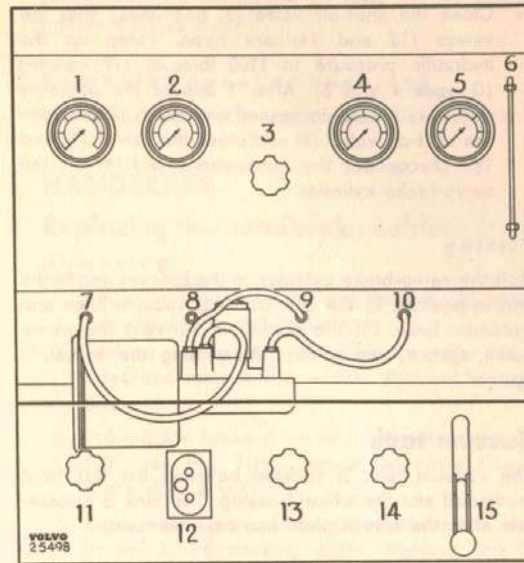

Fig. 7-27. Connections for testing
After assembling, the servo-brake cylinder should be tested. This can be done in a test-bench as shown in Fig. 7-27. Testing should preferably be carried out as follows:
1. Connect the vacuum line (7) to the servo-brake cylinder hydraulic inlet. When doing this, brake fluid should naturally be emptied from the cylinder. Plug the hydraulic outlet. Start the vacuum pump and open the vacuum valve (11). When a vacuum of 10.7 lb/sq.in. (0.75 kg/cm²) has been reached (Gauge 1), close the valve (11). The servo-brake cylinder should maintain a vacuum of at least 10 lb/sq.in. (0.7 kg/cm²) for five seconds. Then disconnect the vacuum line and open the hydraulic outlet.
2. Connect the line (9) to the servo-brake cylinder hydraulic inlet. Close the shut-off valve (3) and open the inlet valve (13). Check through the sight glass (6) that there is sufficient brake fluid for air-venting. Operate the pump (15) until brake fluid begins to run out of the servo-brake cylinder hydraulic outlet.
3. Connect the line (10) to the outlet and the vacuum line (7) to the vacuum connection, see Fig. 7-27. Open the valve (11) so that the gauge (1) shows 10.7 lb/sq.in. (0.75 kg/cm²). Check that the shut-off valve (3) is closed and that the valves (13 and 14) are open. Pump up the ingoing hydraulic pressure until the gauge (4) shows 498 lb/sq.in. (35 kg/cm²). The outgoing hydraulic pressure (Gauge 5) should then show at least 950 lb/sq.in. (67 kg/cm²). Then open the shut-off valve (3) when the gauges (4 and 5) should immediately return to zero. Repeat this test operation a few times.